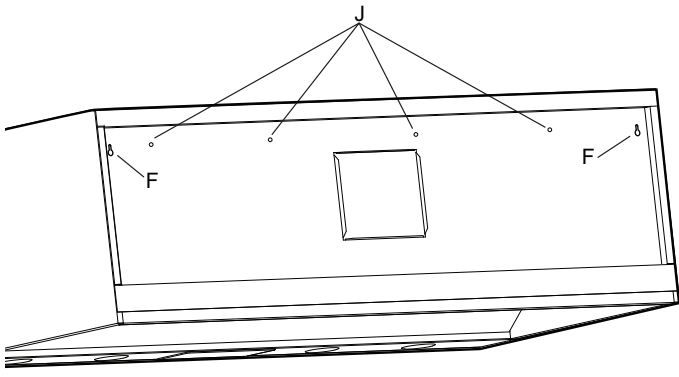

Figure 15: Location of Screw Holes
16. Using two people to lift, rest the hood on the screws in the wood bracket. Use the keyholes labeled "F" in *Figure 15*. Make sure the wood bracket fits into the recess on the back of the hood.
18. From inside the hood, drive 5/8" (16 mm) screws through holes in hood into wooden bracket. See holes labeled "J" in *Figure 15*.